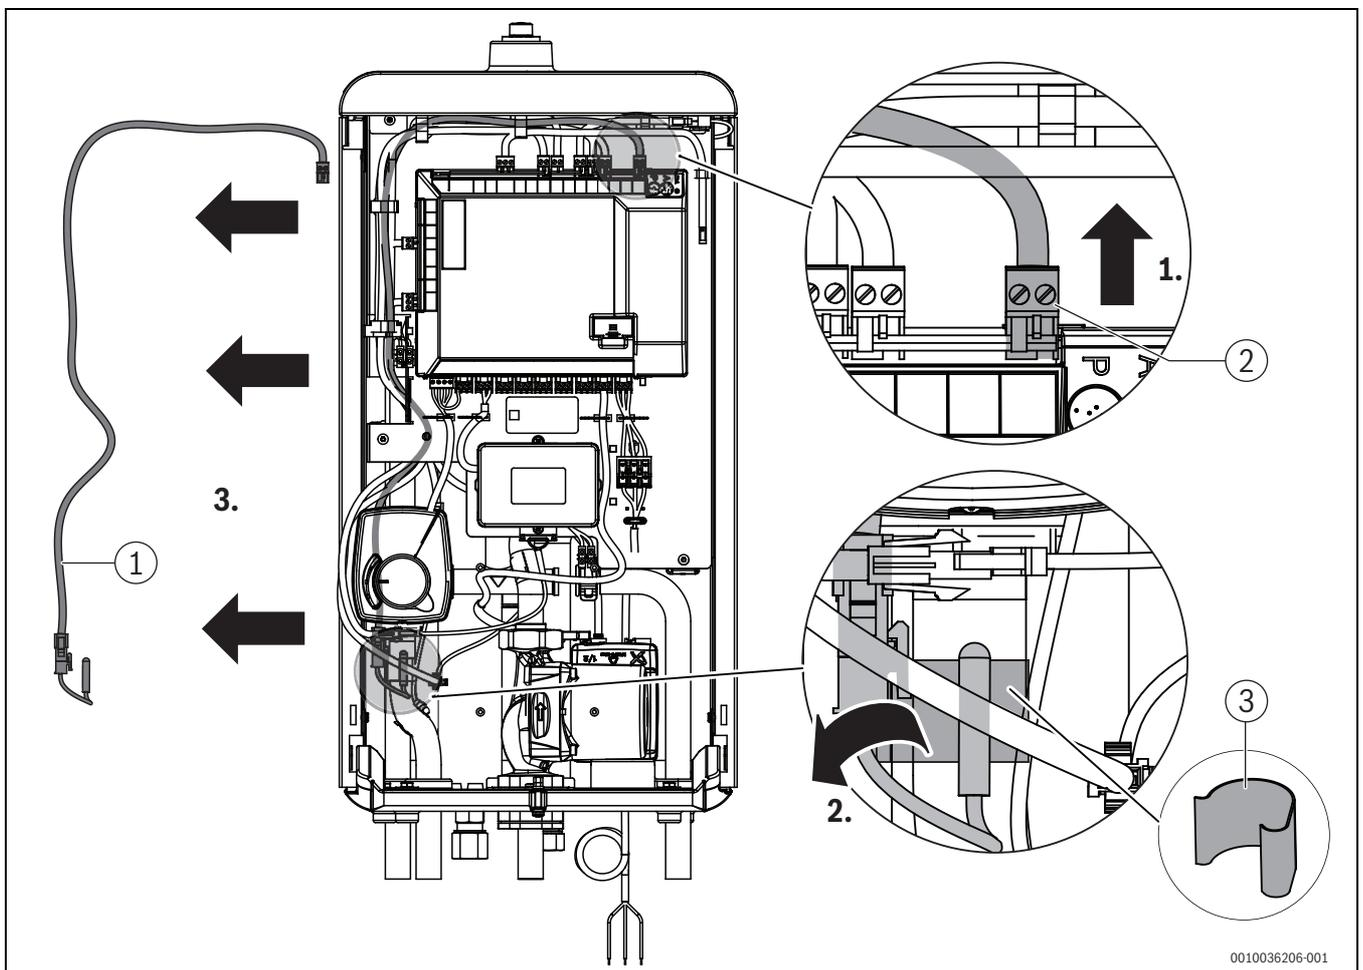
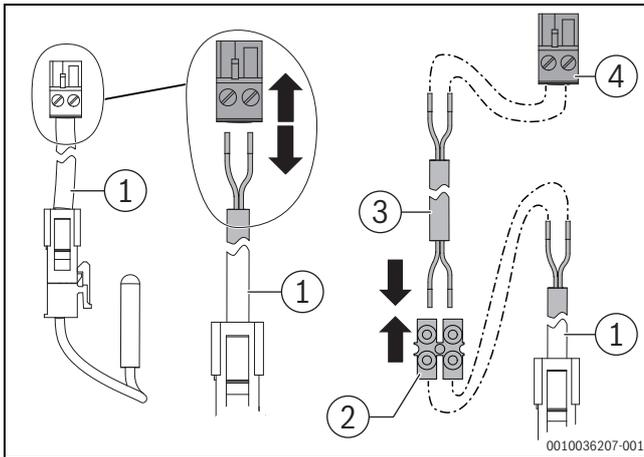

Fig. 37 Remove the flow temperature sensor with cable
Fig. 38 Extending the flow sensor cable
If the flow temperature sensor is installed outside the indoor unit on the buffer cylinder or downstream of the bypass, it must be completely removed from the indoor unit (→Fig. 37) and if necessary extended using a suitable extension cable (H03VV-F 2x0.5 mm²) of corresponding length, as described below (→Fig. 38).
- ▶ Remove the plug from the cable (→Fig. 38).
- ▶ Install the plug on the extension cable (→Fig. 38) and plug into the T0 connection.
- ▶ Connect the extension cable to the cable of the temperature sensor using a connection terminal (→Fig. 38).